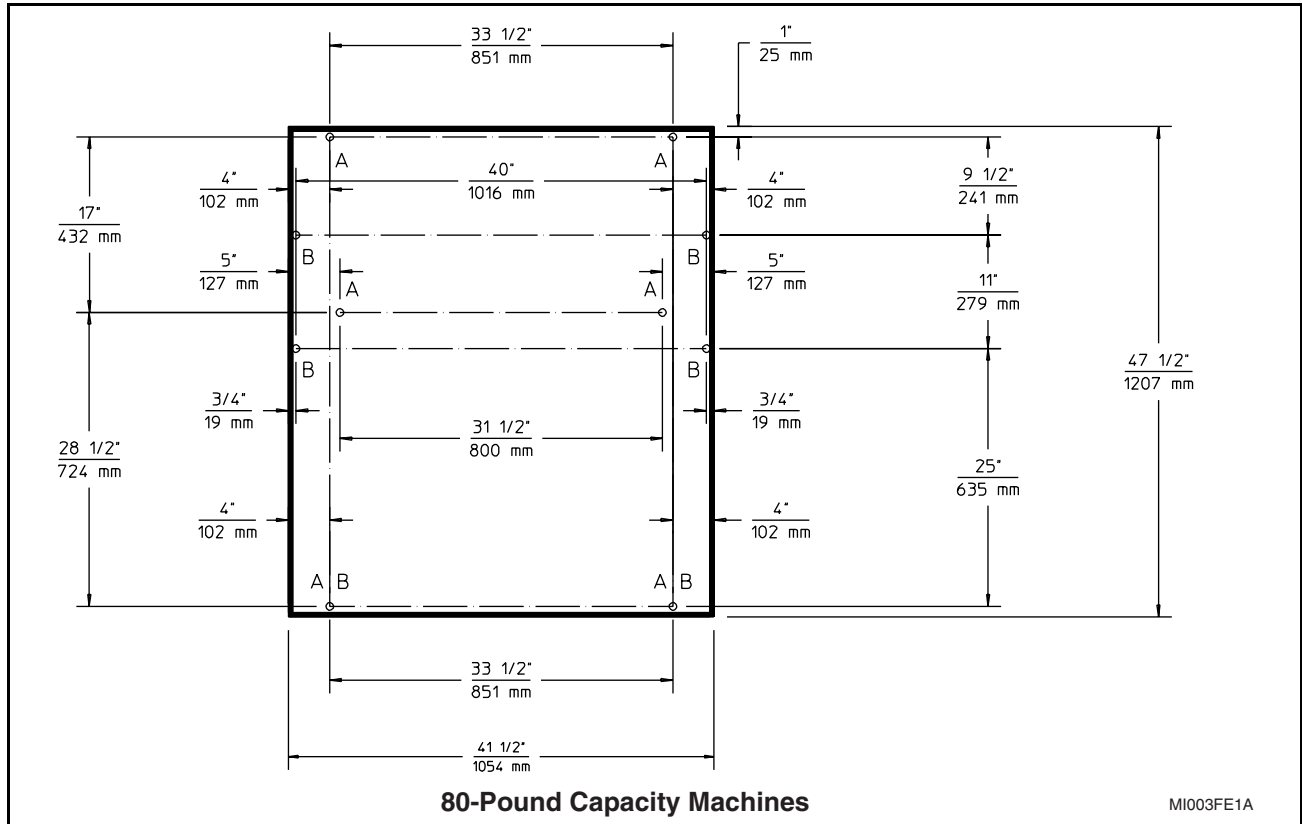

Figure 28
**Note:** There are two different mounting bolt layouts which may be used for the 80-pound capacity machine. See Figure 28. The bolt holes marked A are to be used for close mounting—machines installed with a 1-inch (25.4 mm) clearance between machines. The bolt holes marked B are to be used for standard mounting—machines installed with a minimum clearance of 8 inches (203 mm) between machines.